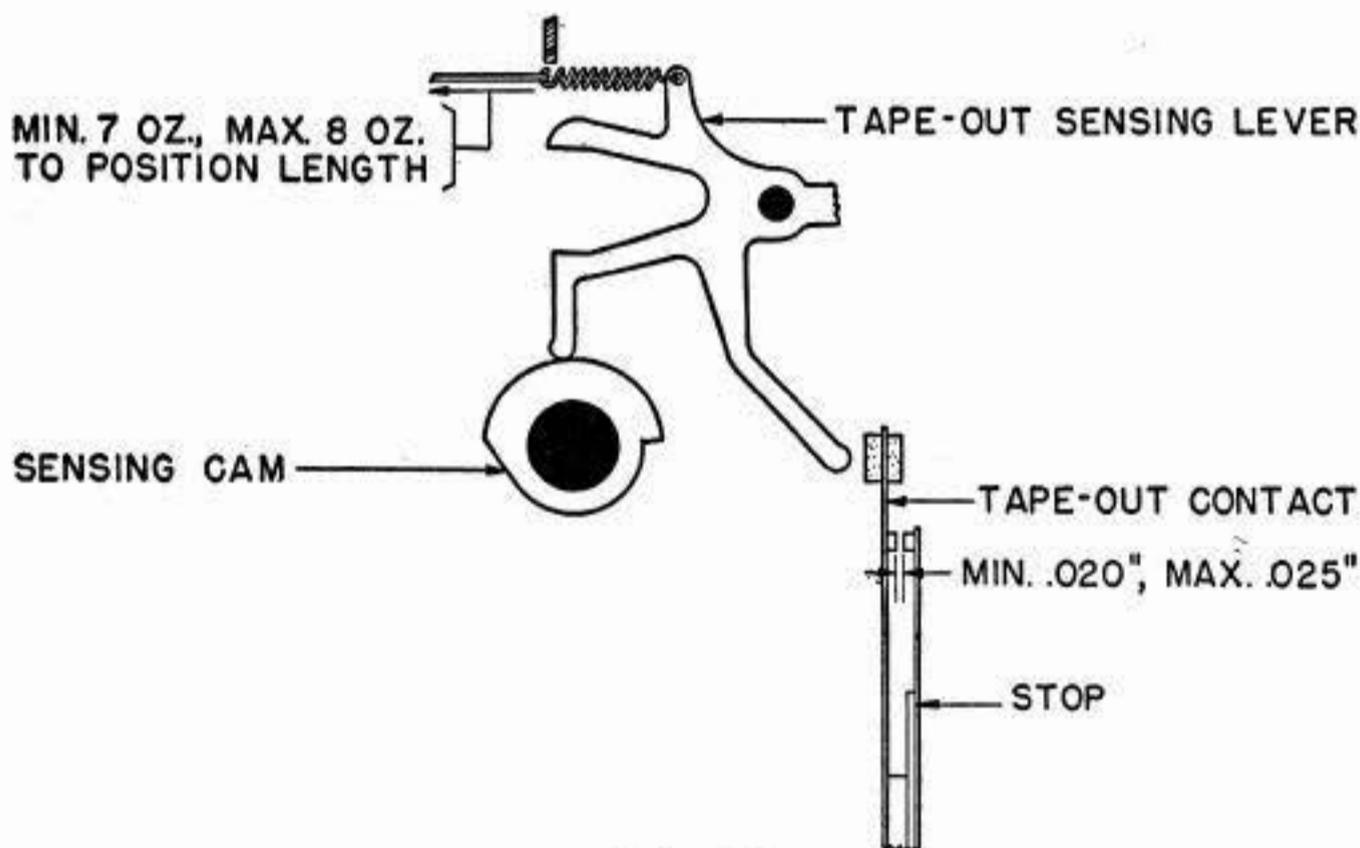

Fig. 68
(1) If there is no clearance, refine (b).
2.135 **Tape-Out Sensing-Lever Spring:** It should require a pull as indicated in Fig. 68 to pull the spring to position length with the tape-out-sensing lever on the high part of its cam. **Fig. 68**
(b) The short-contact spring should rest lightly against its stop. **Fig. 68**
(c) The long- and short-contact springs should be approximately parallel and at approximately right angles to their mounting bracket. There should be a clearance as indicated in Fig. 68 between the contacts of the opposing springs. **Fig. 68**